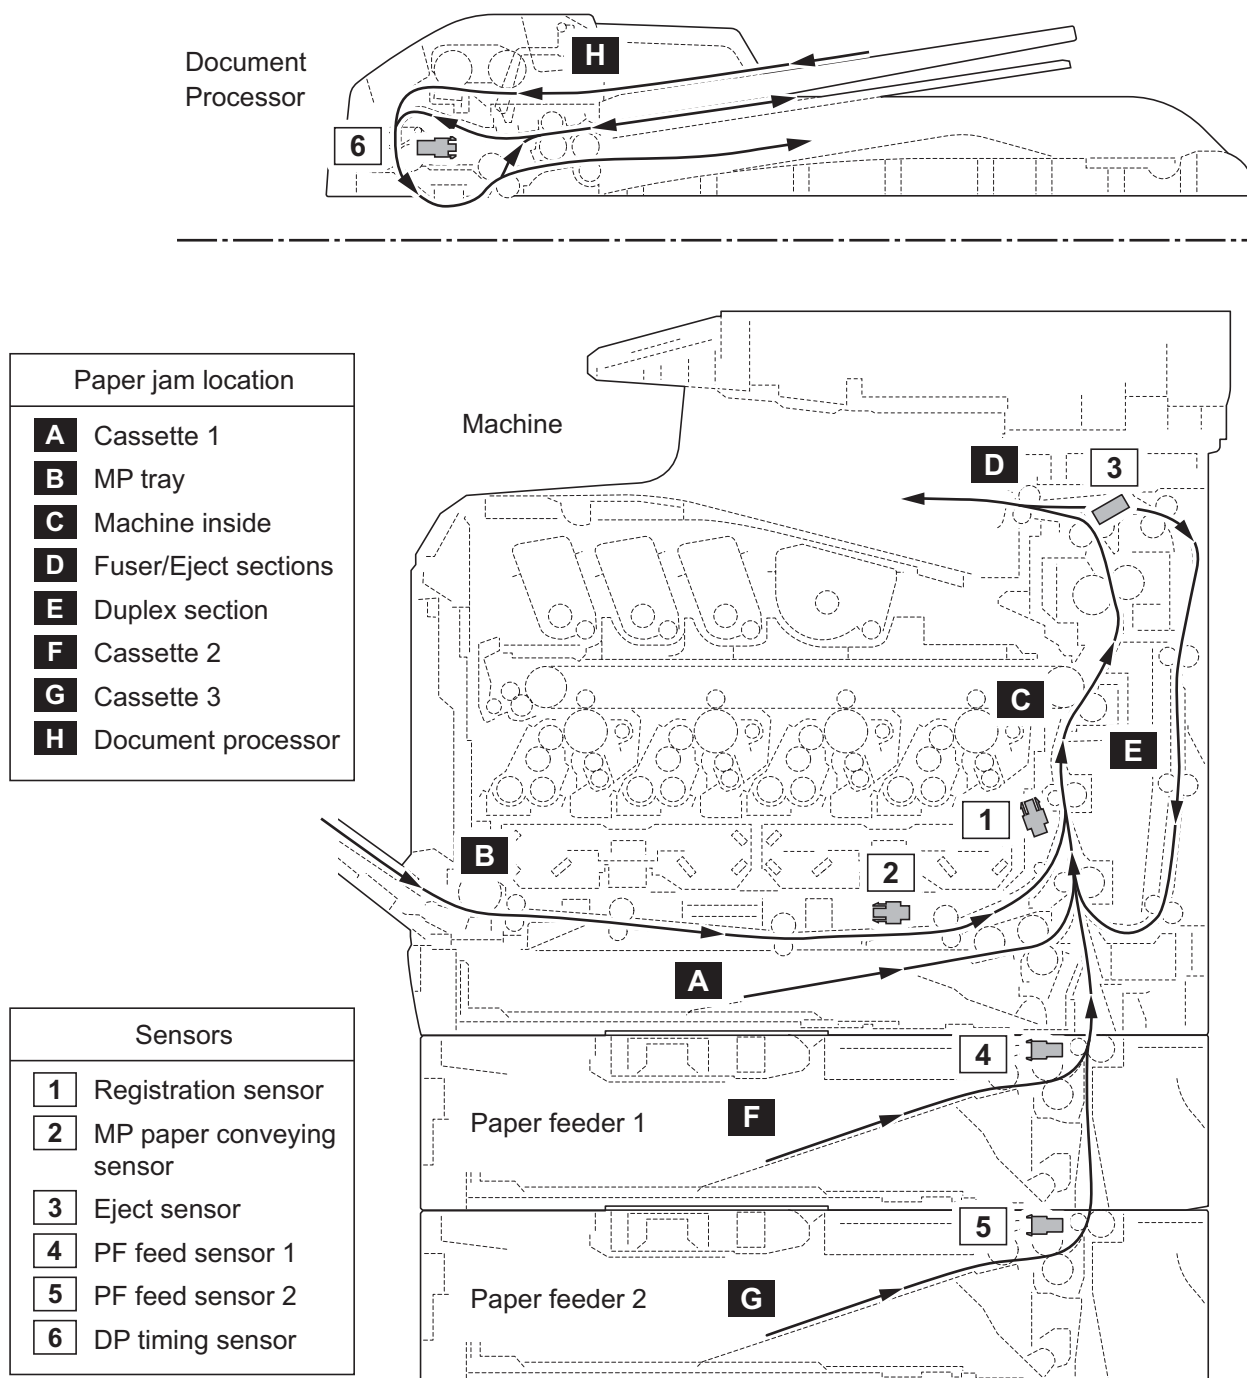

Figure 1-4-2 Paper jam location
*: Refer to figure 1-4-2 for paper jam location (see page 1-4-2).